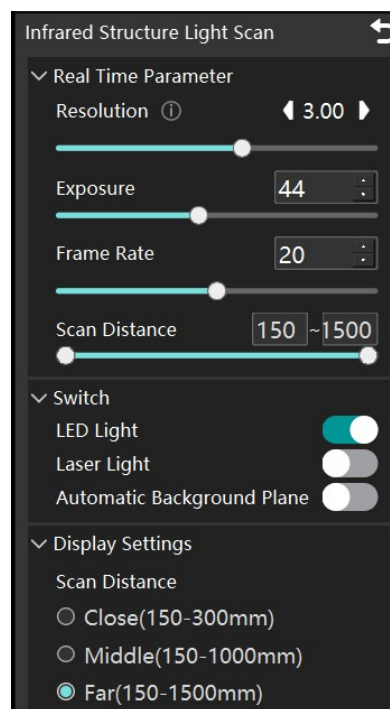

Figure 7-16 Parameters of Far Distance Scanning
1. Before scanning, click Settings and select "Far (150mm-1500mm)" in Scan Distance. The default resolution for far distance scanning is set to 3.0, which is shown in Figure 7-16. This value can be modified as needed based on specific application requirements.